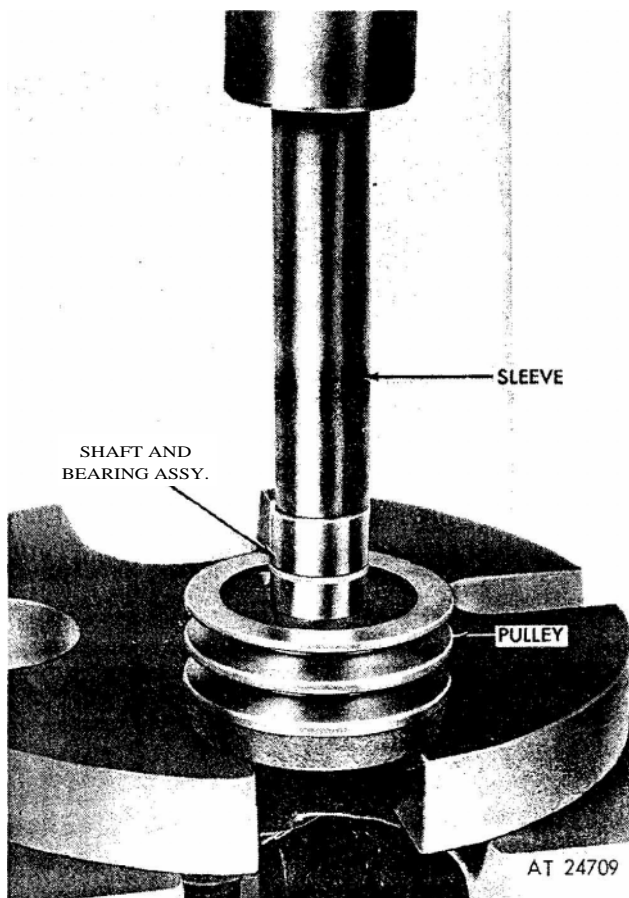

Figure 3. Installing shaft and bearing assembly in idler pulley.
1. Apply a minimum of 2500 lbs pressure only on the outer race of the bearing as shown in figure 3,